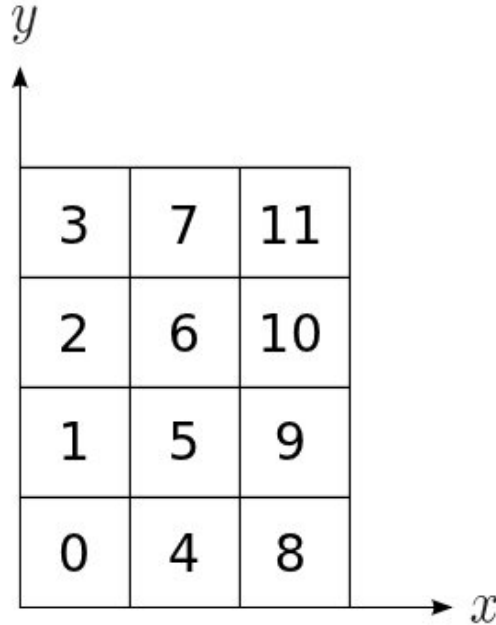

Figure 5.4: The layout of the field positions on the recorded cross section in the movie file.
- an array of length (**length\_2** x **length\_1**) holding the relative-permittivity values on the recorded cross section (double, 8 bytes): In Figure 5.4, it is assumed that the xy section is recorded, and the field positions are numbered from 0 to 11. It is seen that the **second dimension** (here, the y-dimension) is looped through first. These positions are laid out in the movie file in the same order: